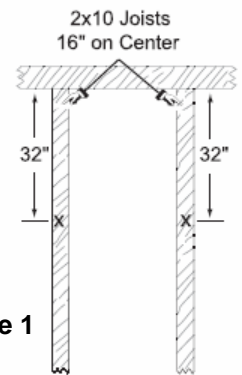

Figure 1
- Determine where in the room the speaker brackets will need to be located. After determining, measure from a fixed location and mark the corresponding joists/studs. (See Figure 1)